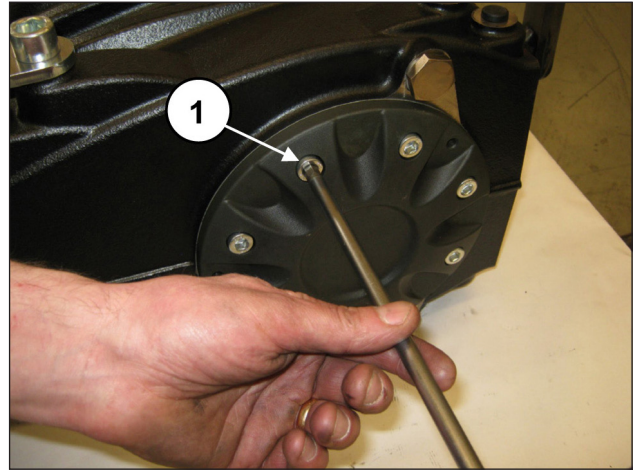
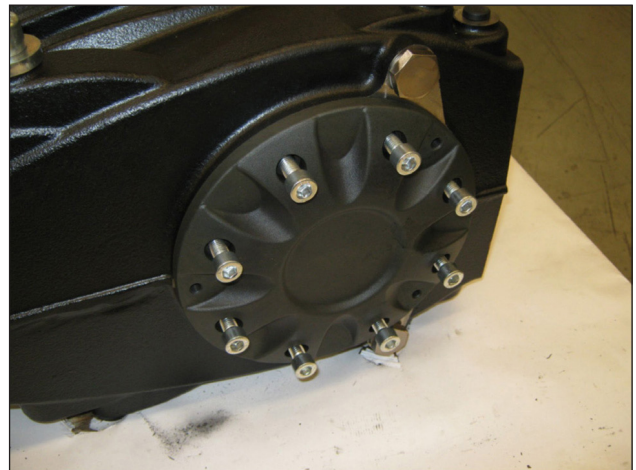

Fig. 26
Fig. 27
Unscrew the bearing cover fixing screws from the opposite side (pos. ①, Fig. 26 and Fig. 27).